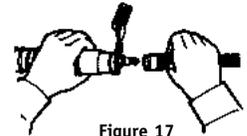

Figure 17
2. With air flowing, and the connected breathing tube assembly to the flow control device (see Figure 17). Connect quick-disconnect fitting on flow control device to quick-disconnect coupler on air supply hose. Once fitting is secured, release coupling sleeve to lock fittings together. Pull on both hoses to make sure they are attached securely.